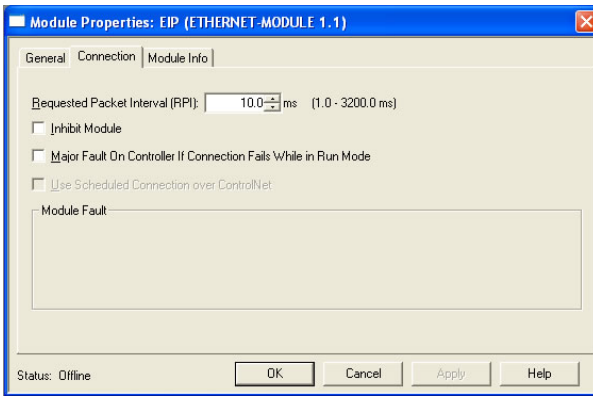

Figure 82: Interface Card Module Properties Connection Tab
- 5) You should now see the new module (named “ETHERNET-MODULE Fuji_Inverter”) in the 1756-ENBT/A branch under the I/O Configuration in the controller organizer view. Right click on this new module, choose “Properties”, and select the Connection tab. Refer to Figure 82.